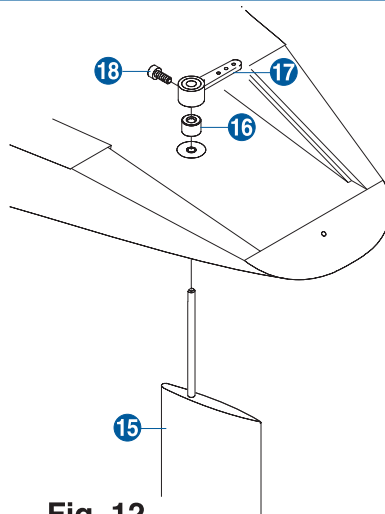

Fig. 12
3. Assemble the rudder into the rudder tube and attach the steering arm as shown in Fig. 12.